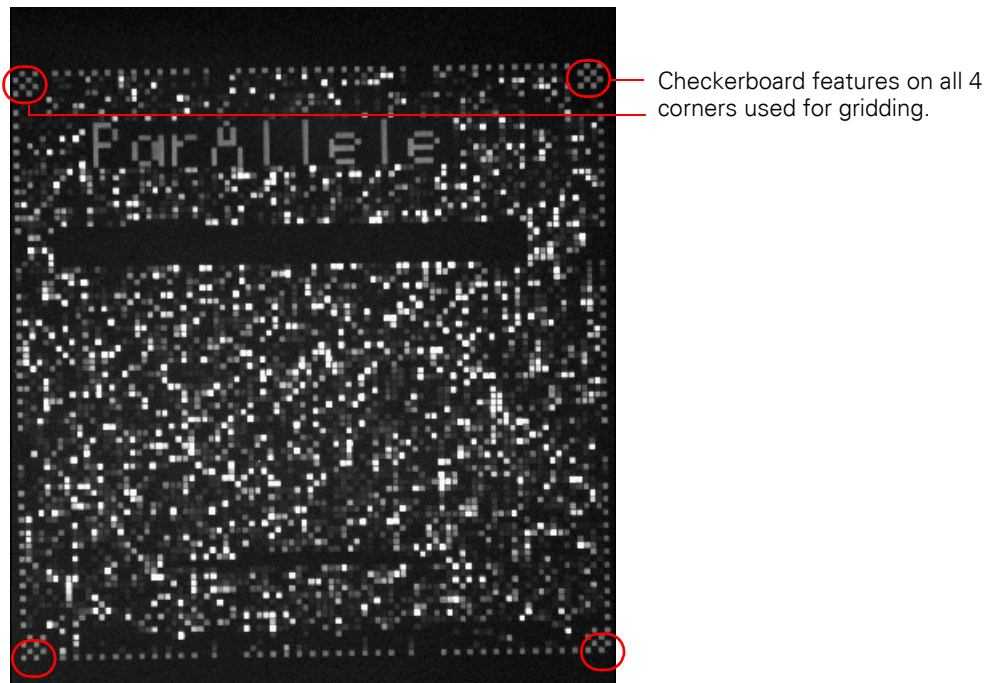

Figure 2.2 Example of a .dat File
When opened, .dat files look similar to the example shown in Figure 2.2.
- Control features (used for gridding and other functions; shown in Figure 2.2)